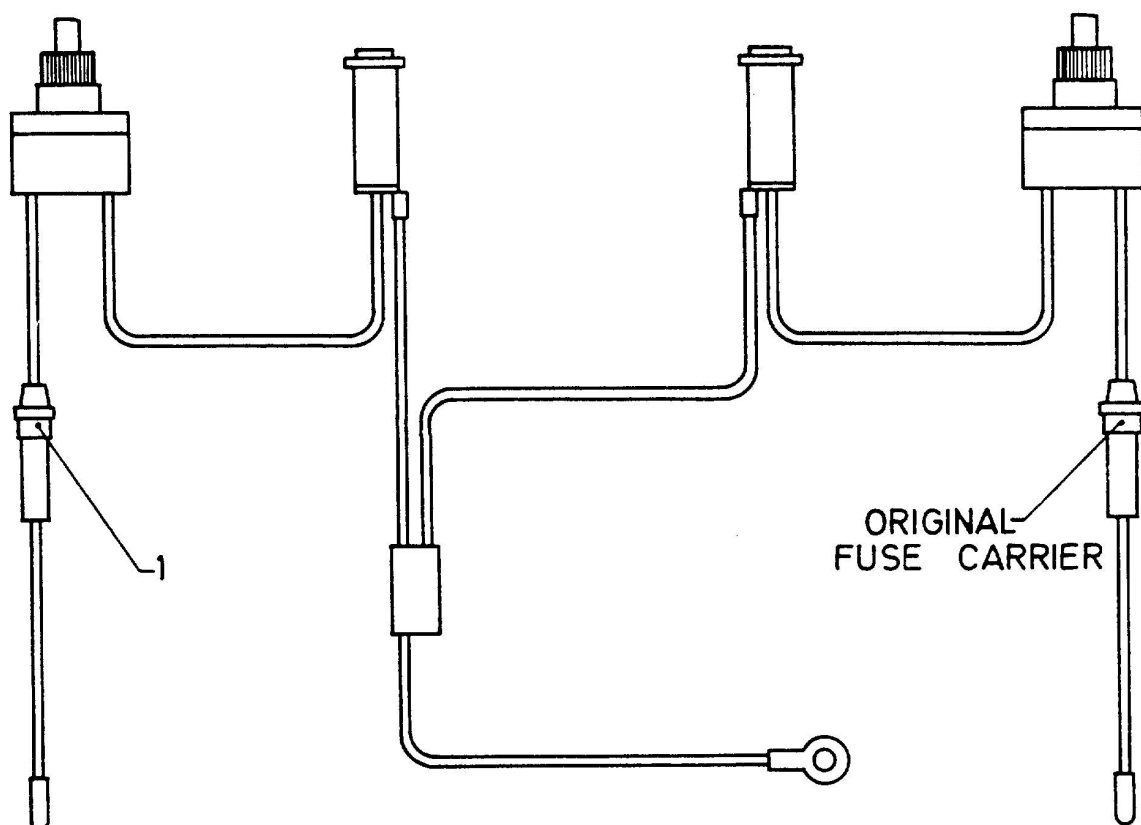

Fig 2 Modified earth leakage test circuit
9.4 Incorporate original fuse carrier assembly and additional fuse carrier assembly (item 1) into earth leakage fault test circuit as shown in Fig 2.